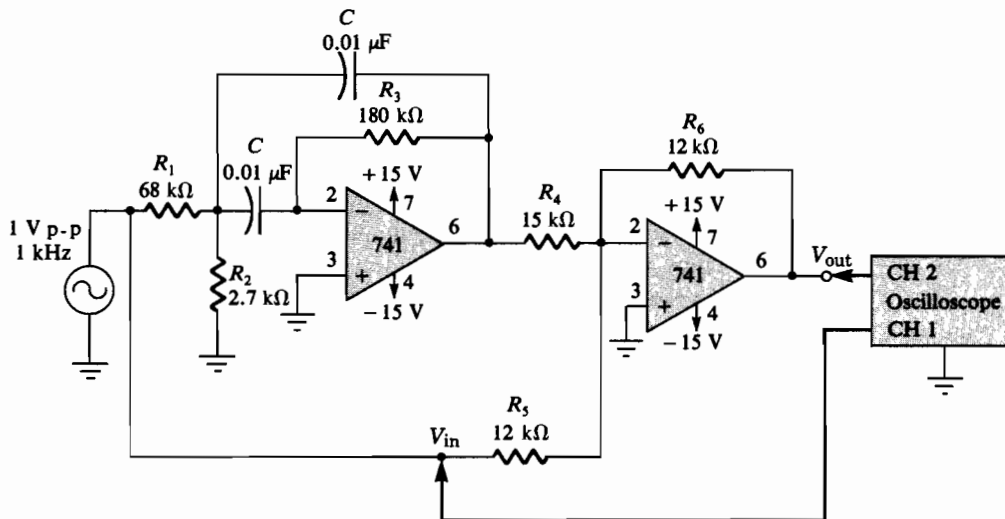

FIGURE 42-1 Schematic diagram of circuit.
1. Wire the circuit shown in the schematic diagram of Figure 42-1, and set your oscilloscope for the following approximate settings:
1. The notch frequency of the filter circuit of Figure 42-1 with the components shown is approximately
2. The Q for the circuit of Figure 42-1 with components shown is approximately